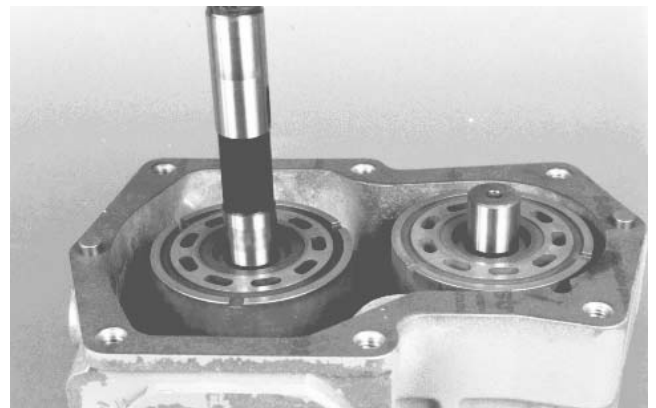

Figure 71
19. Install the two (2) alignment pins and install a new center section gasket onto the housing (Fig. 71).